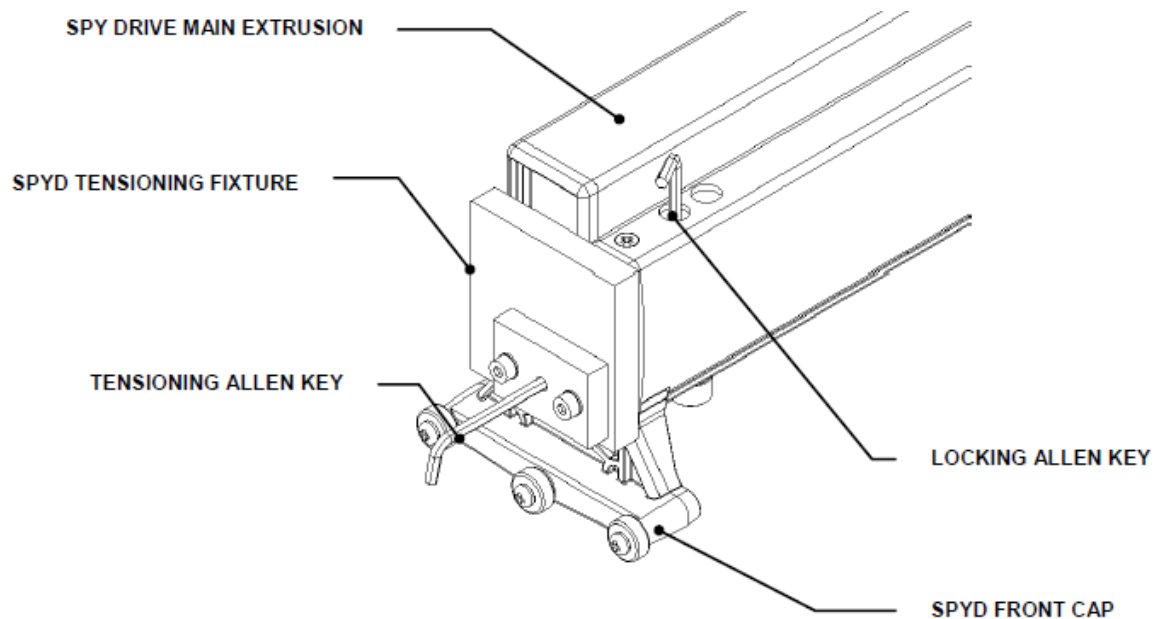

Figure T-13: Tensioning Fixture
9. Fit the Sample Pipette Y Drive Tensioning Fixture (P24FIX013) to the position shown in Figure T-13 and engage the captive screw in the tensioning slide.